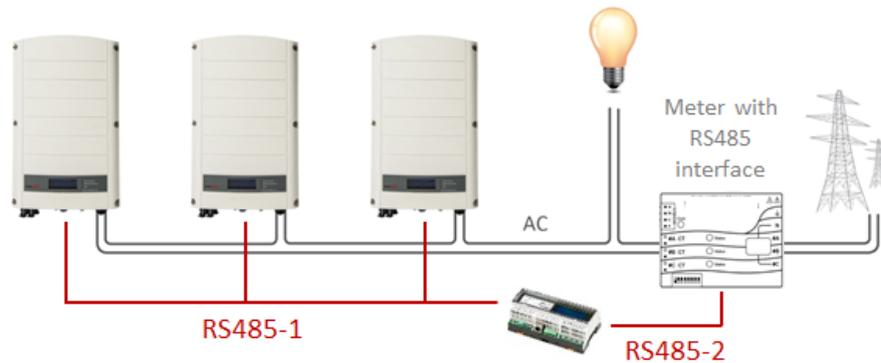

Figure 6: Multi-inverter connection with CCG, RS485 meter and RS485 communications
- The meter is connected to one of the RS485 ports of a CCG. The CCG is the smart energy manager. The CCG's second RS485 port can be used to create an RS485 bus for communication between the inverters. This option is illustrated in *Figure 6*.